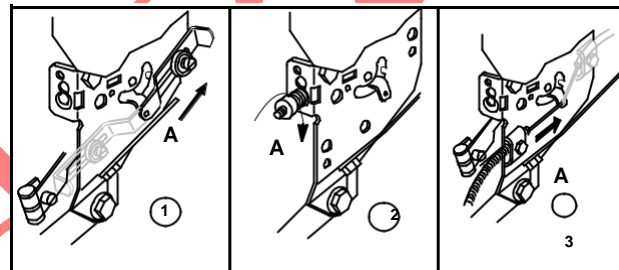

Fig. 70
Adjust cable or turn knob as shown (A) to increase speed. Manual friction (1), fixed adjustable (2), remote control (3), Fig. 70.